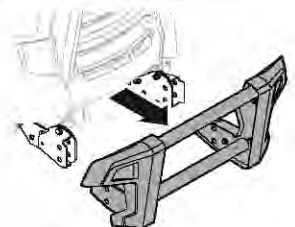

Figure 58
2. Retirez le grillage de protection. Voir Figure 58.